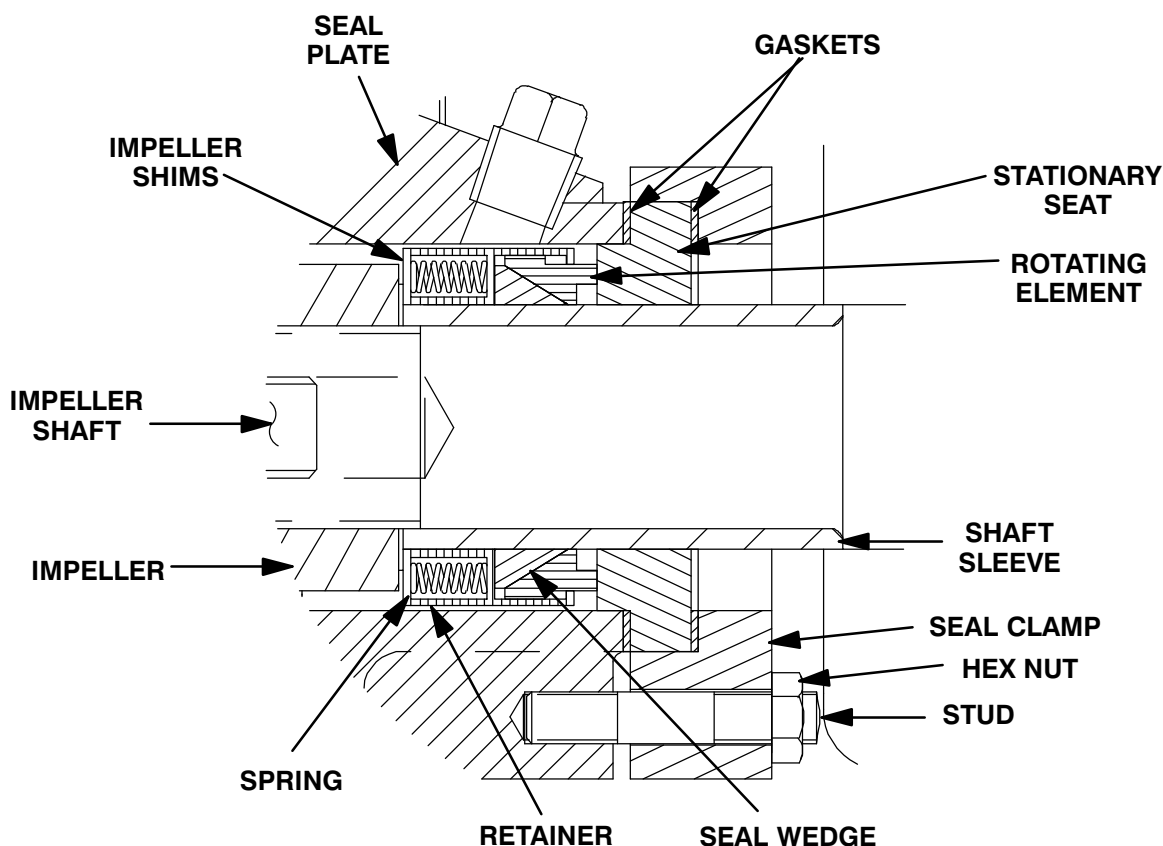

Figure E-3. Seal Assembly
To ease installation of the seal, lubricate the wedge and shaft sleeve (14) with water or a very **small** amount of oil, and apply a drop of light lubricating oil on the finished faces. Assemble the seal as follows, (see Figure E-3).